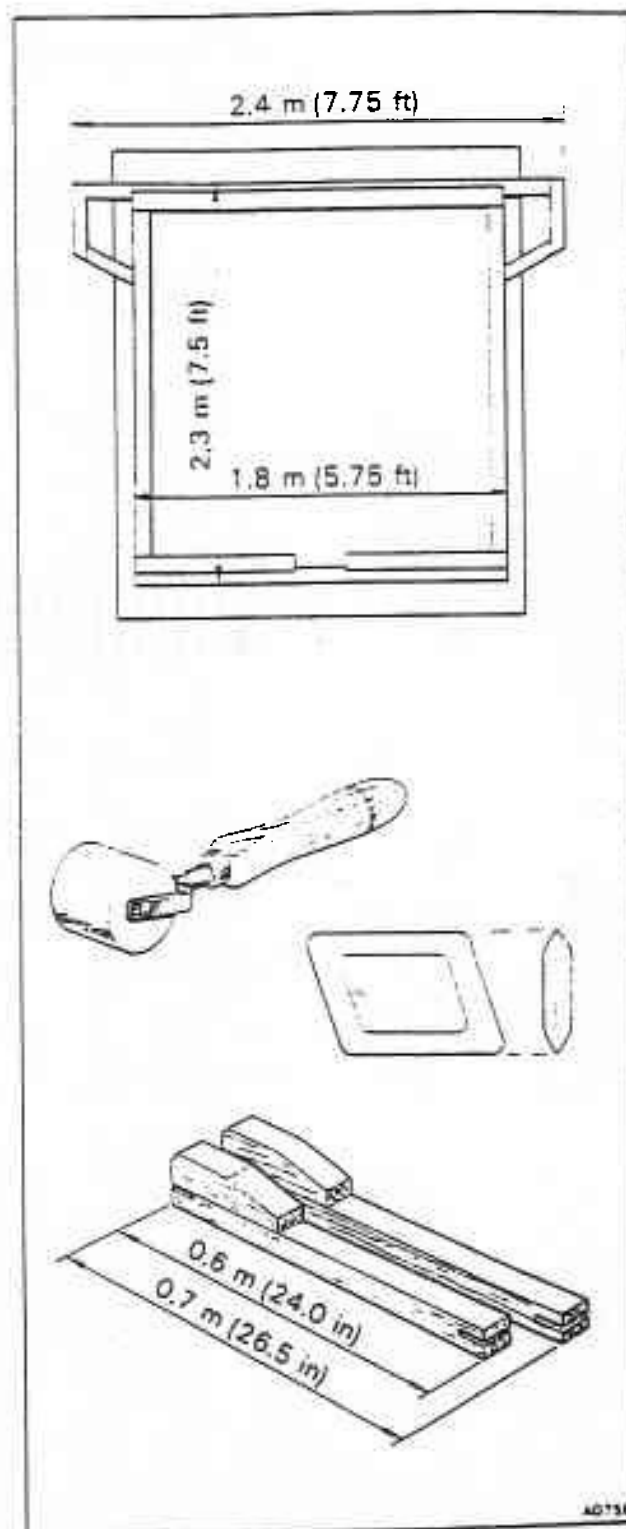

Fig. S18-2 Stretching jig and tools
3. Using a stretching jig similar to the one shown in figure S18-2, centralize and tack the four corners of the Everflex centre panel, outer surface upwards, to the frame. Ensure that the centre panel is lightly tensioned, then tack the Everflex side panels to the frame.